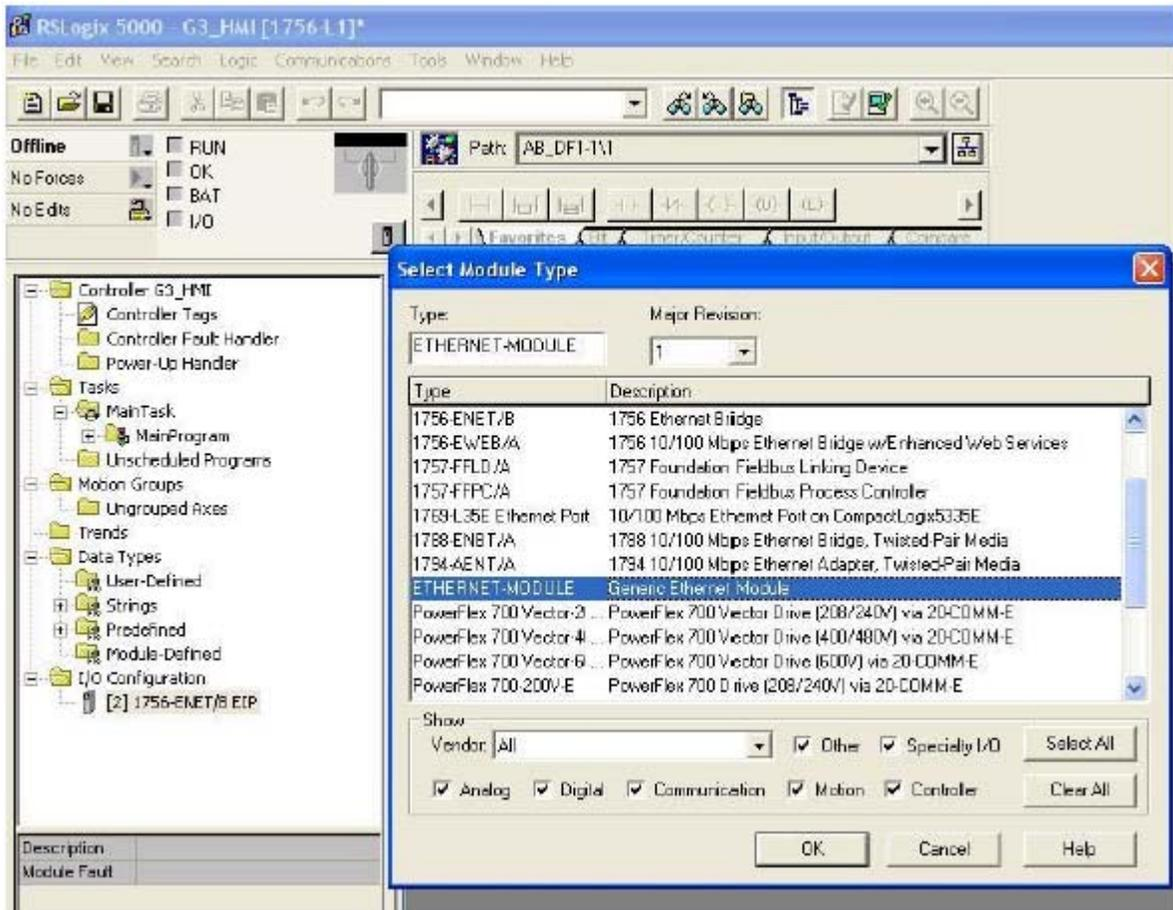

FIG. 72. Ethernet Module Selection
- c. In the Select Module Type window, choose Generic Ethernet Module. See FIG. 72.